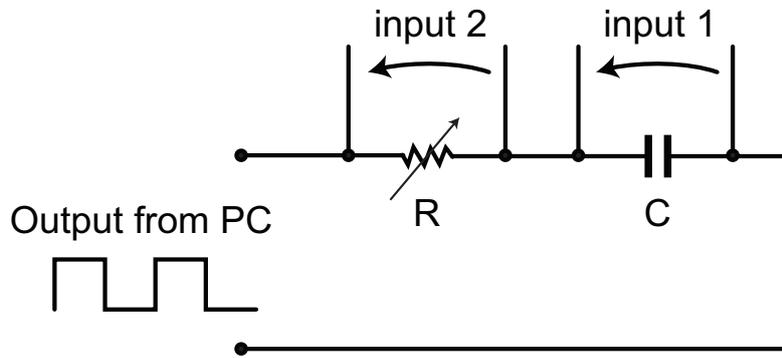

Figure 7: Scheme of the RC circuit.
10. Now let's put all of this together. We will generate a square wave of variable frequency and amplitude keeping its baseline at 0 V. We will input this excitation into a series combination of a variable resistor R and capacitor C . We will measure both of these voltages in real time and see if we observe the desired characteristics of these components. This printed circuit has been constructed for its ease of use and should be available in the kits we've provided. The circuit diagram is shown in Fig. 7.